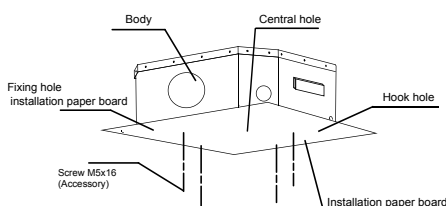

Fig. 5-8
- 2 After installing the body, please fasten the installation paper board onto the air conditioner with bolts (M6X16) to determine in advance the sizes and positions of the hole opening on ceiling. (Refer to Fig.5-8)